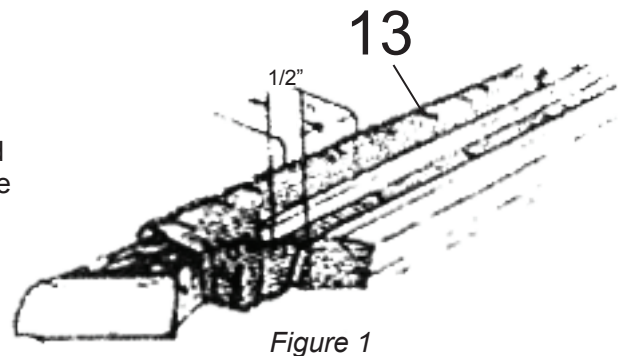

Figure 1
1. Place rail cloth piece over rail with "face" side down. The cloth should have an equal over-hang at each end of the rail and extend approximately 1/2" over the featherstrip groove on the cushion side (Figure 1).
2. Starting at the center of the rail, tap the featherstrip down to within 1/16" above the rear side of the featherstrip (Figure 1) using a wood block and hammer.